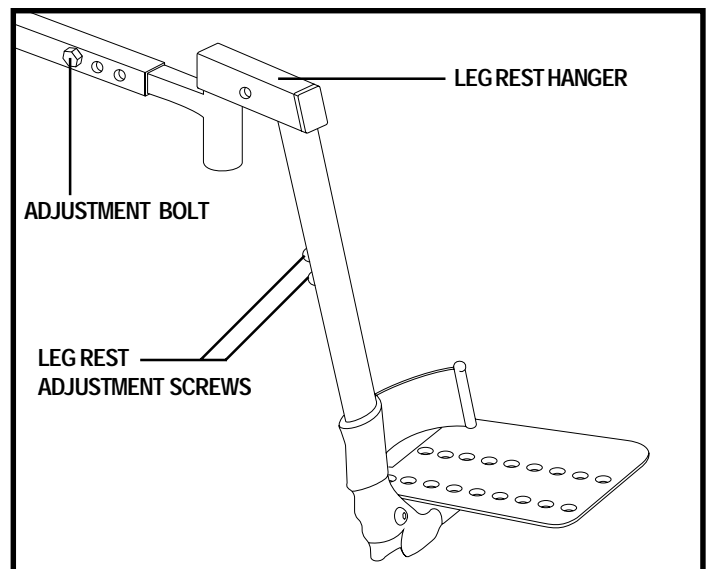

Figure 23. Heavy Duty Drop-In Leg Rests
1. Remove the adjustment bolt from each side rail. See figure 23.